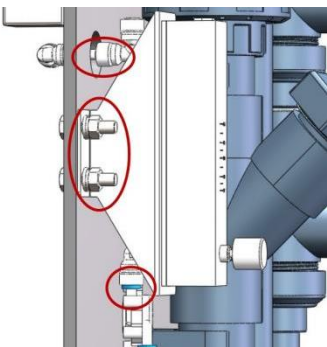

Figure. 7
7. Install the installed float flow meter back to the panel, pay attention to the need to connect the fittings to the original equipment piping, as shown in Figure.7